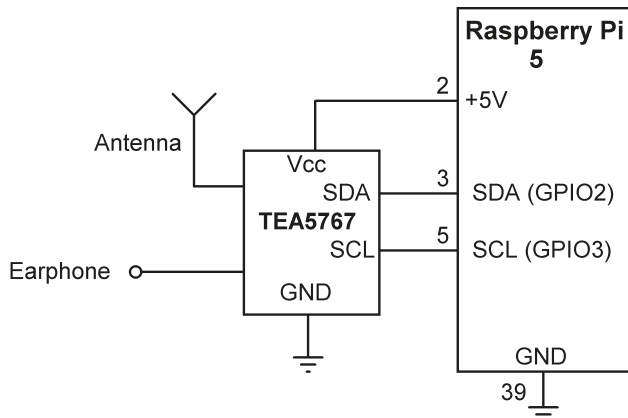

Figure 4.73: Circuit diagram of the project.
**Circuit diagram:** The circuit diagram is shown in Figure 4.73. SDA (GPIO2, pin 3) and SCL (GPIO3, pin 5) of Raspberry Pi 5 are connected to the radio module which is powered from the +5V of Raspberry Pi 5.
Before developing the program, you will have to enable I2C using the **raspi-config** utility. Then, construct the program as shown in Figure 4.73. Enter the following command to make sure that the TEA5767 module is detected by the Raspberry Pi 5 and read its address as shown in Figure 4.74. By default the address is 0x60.